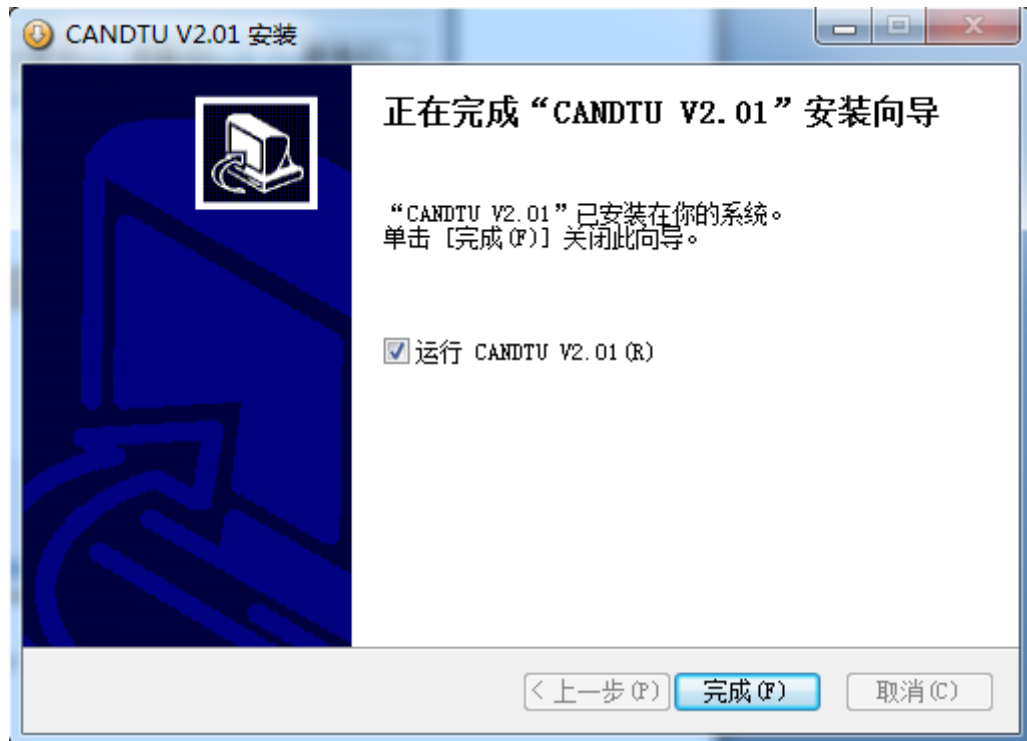

Figure 4.5 Installation complete
5) Click "Install". The dialog box shown in Figure 4.5 appears.